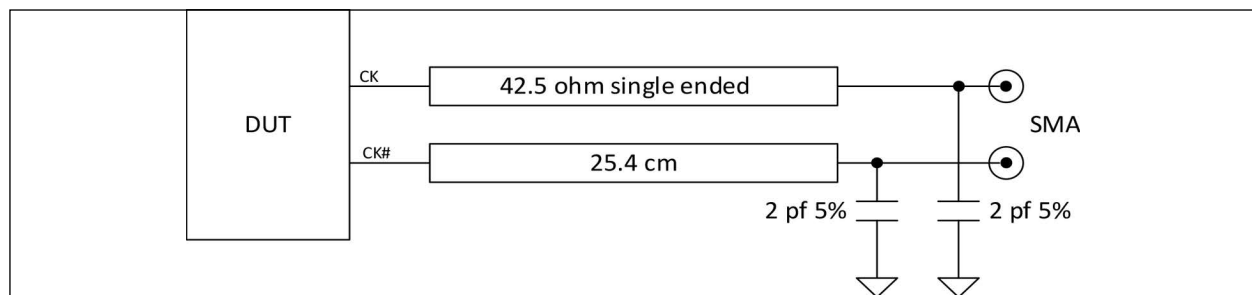

FIGURE 5-5: AC Test Load as per DB2000QL Specifications.
Note 1: Measured into AC test load as per Figure 5-5.
- Note 1:** Measured into AC test load as per Figure 5-5.
Note 1: Measured into Figure 5-5 AC test load.